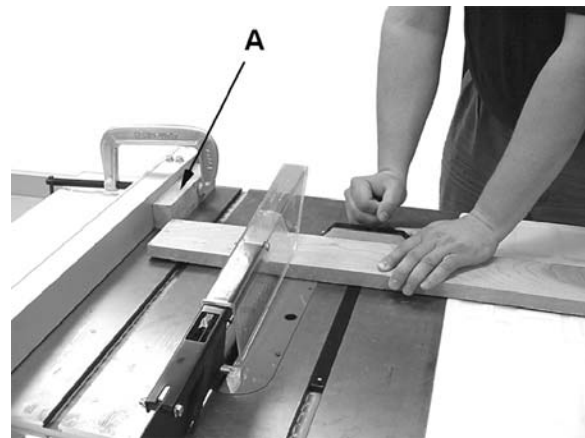

Figure 37
- ❑ Do not use the miter gauge and rip fence in the same operation unless provision is made by use of a facing board on the fence so as to allow the cutoff section of the workpiece to come free before the next cut is started (See Figure 37).
Crosscutting should **never** be done freehand nor should the fence be used as an end stop unless an auxiliary block (A, Figure 37) is clamped to the front of the blade area such that the cutoff piece comes free of the block before cutting starts.